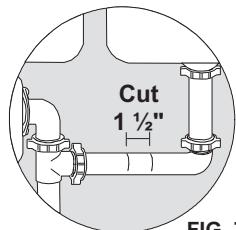

FIG. 7
1. Measure the midpoint on the horizontal waste ell and cut out 1 ½" of tubing. (See Fig. 7)